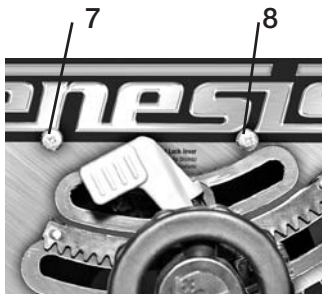

FIG 16
To Adjust the 45° Positive Stop, follow the same procedures as adjusting the 90 positive stop. Set the blade at a 45° angle against a combination square. The 45° positive stop adjusting screw and jam nut (8) is on the right side. See FIG 16.